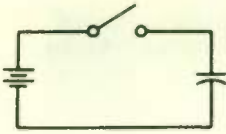
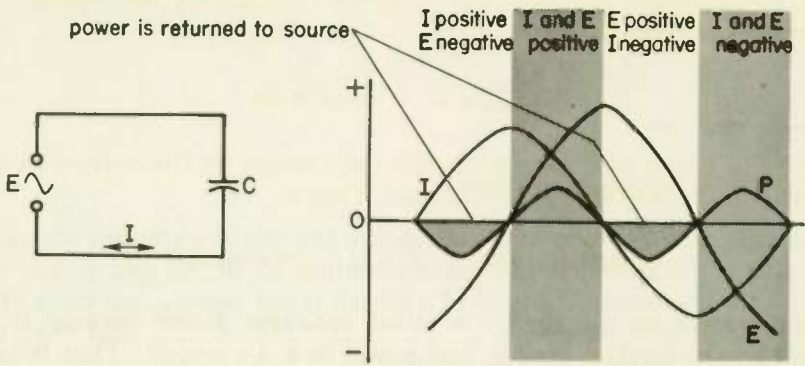
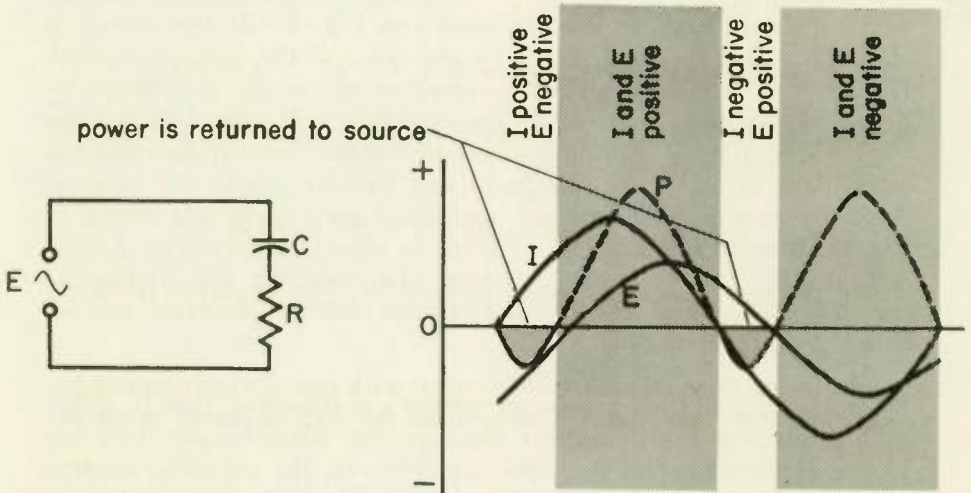

Fig. 47 A d-c capacitance circuit.
Fig. 48 A simple capacitor circuit and its waveforms.
Fig. 49 RC circuit showing apparent and real power.
12 TWO KINDS OF POWER . . . Consider a d-c circuit containing capacitance only such as the one shown in Fig. 47. If the switch is closed, the capacitor will charge to the value of the voltage applied. If the switch is then opened, the capacitor will retain the charge indefinitely. Suppose that, while the switch is still open, we replace the charged battery with one that is discharged. Now if we close the switch, the capacitor will discharge and thereby charge the battery. A similar arrangement and the associated waveforms are shown in Fig. 48. Instead of a switch, we have an alternating voltage. As the voltage goes positive in one direction, the capacitor will charge. As the voltage decreases, the capacitor charge will also decrease and return the charge to the source.
Next consider an *RC* circuit across an alternating voltage. Again the capacitance returns the power that it receives. The difference is that the resistor dissipates power. Note that in Fig. 49 the signs of the voltage and current are the same (either both positive or both negative) for most of the cycle. This indicates that the circuit draws more power from the source than it returns. The difference between the power drawn and the power returned is the power dissipated or consumed by the circuit.
To see how wrong this idea can be, refer to Fig. 48 again. If E is 50 V and I is 5 A, the apparent power is $5 \times 50 = 250$ VA (volt-amperes). But you already know that the actual power used in this circuit is 0 W. Although true power is dissipated in the circuit shown in Fig. 49, it is less than the apparent power. The power used by any circuit can never be greater than the apparent power, and it will be less than the apparent power if the current is not exactly in phase with the voltage. Apparent power is not actual power any more than fool's gold is gold. The word "power," when used alone, always refers to true power.
Suppose in Fig. 49 that the voltage E is 50 V, the current is 3 A, and the pf of the circuit is 0.6. Then
1. In an RC circuit such as that shown in Fig. 49 the positive portions of curve P are (a) (*greater*) (*less*) than the negative portions. The circuit (b) (*is*) (*is not*) dissipating power. The voltage and current (c) (*are*) (*are not*) 90° out of phase. As indicated by the shaded portions of curve P , (a) (*some*) (*none*) (*all*) of the power supplied by the source is returned to the source.